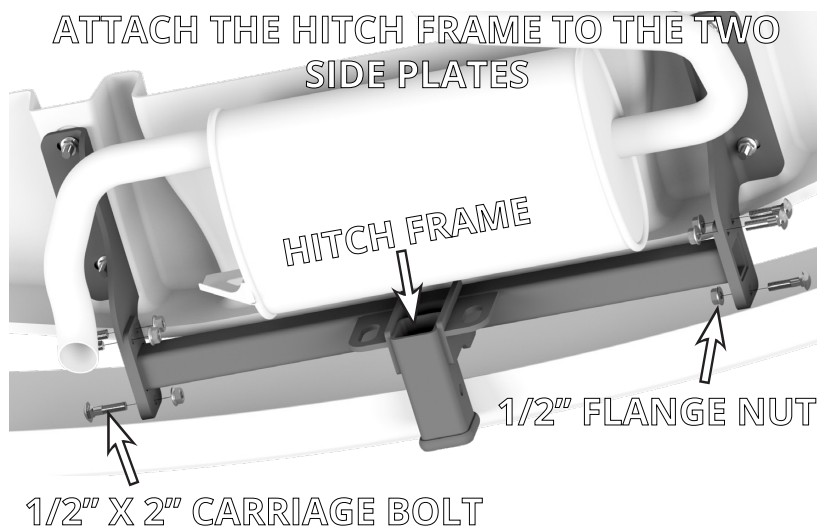

FIGURE C2: VIEW UNDER THE REAR OF THE VEHICLE
- Raise the hitch frame between the side plates, as shown in Figure C2. Use six 1/2" x 2" carriage bolts and six 1/2" flange nuts to secure the hitch frame to the side plates.